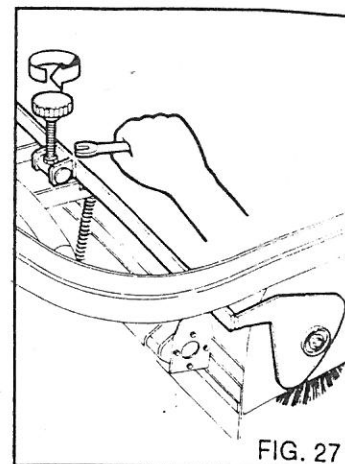

FIG. 27
- 3) Release the lock nut (fig. 27) with the spanner provided and turn the knob in a clockwise direction until perfect contact of the brush with the ground is obtained.